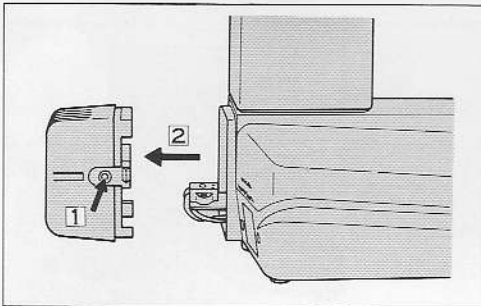

Fig. 2-4
- Remove the lamp housing cover pressing the cover detaching buttons (Fig. 2-4).